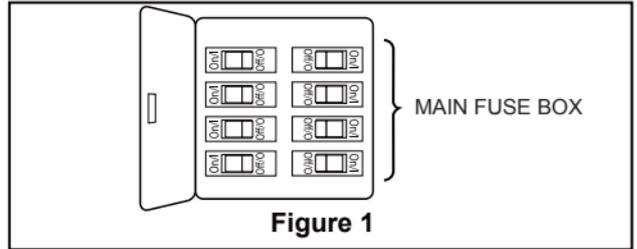

Figure 1
Brace use (Figure 1)
1. Align the canopy holes with the screw holes of the hanger. Install using the 2 screws previously removed and Tighten in the 4 screws using the Short Screwdriver to fix the canopy, taking care not to pinch the wires. Tighten screws. (Figure 1)
1. Pull out the hairpin. (Figure 1)